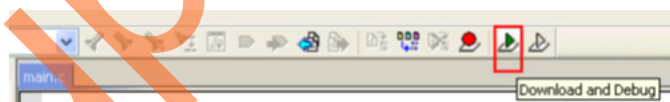

Figure 40 • IAR Workbench - Download and Debug Option
2. In the IAR Workbench, click **Download and Debug** as shown in Figure 40.